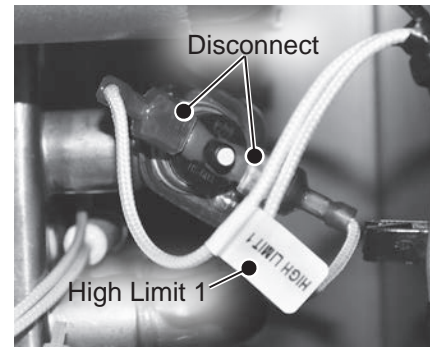

Figure 30 - Disconnecting high limit 1
**6** Locate the high limit 1 wiring harness and disconnect it. See Figure 30.